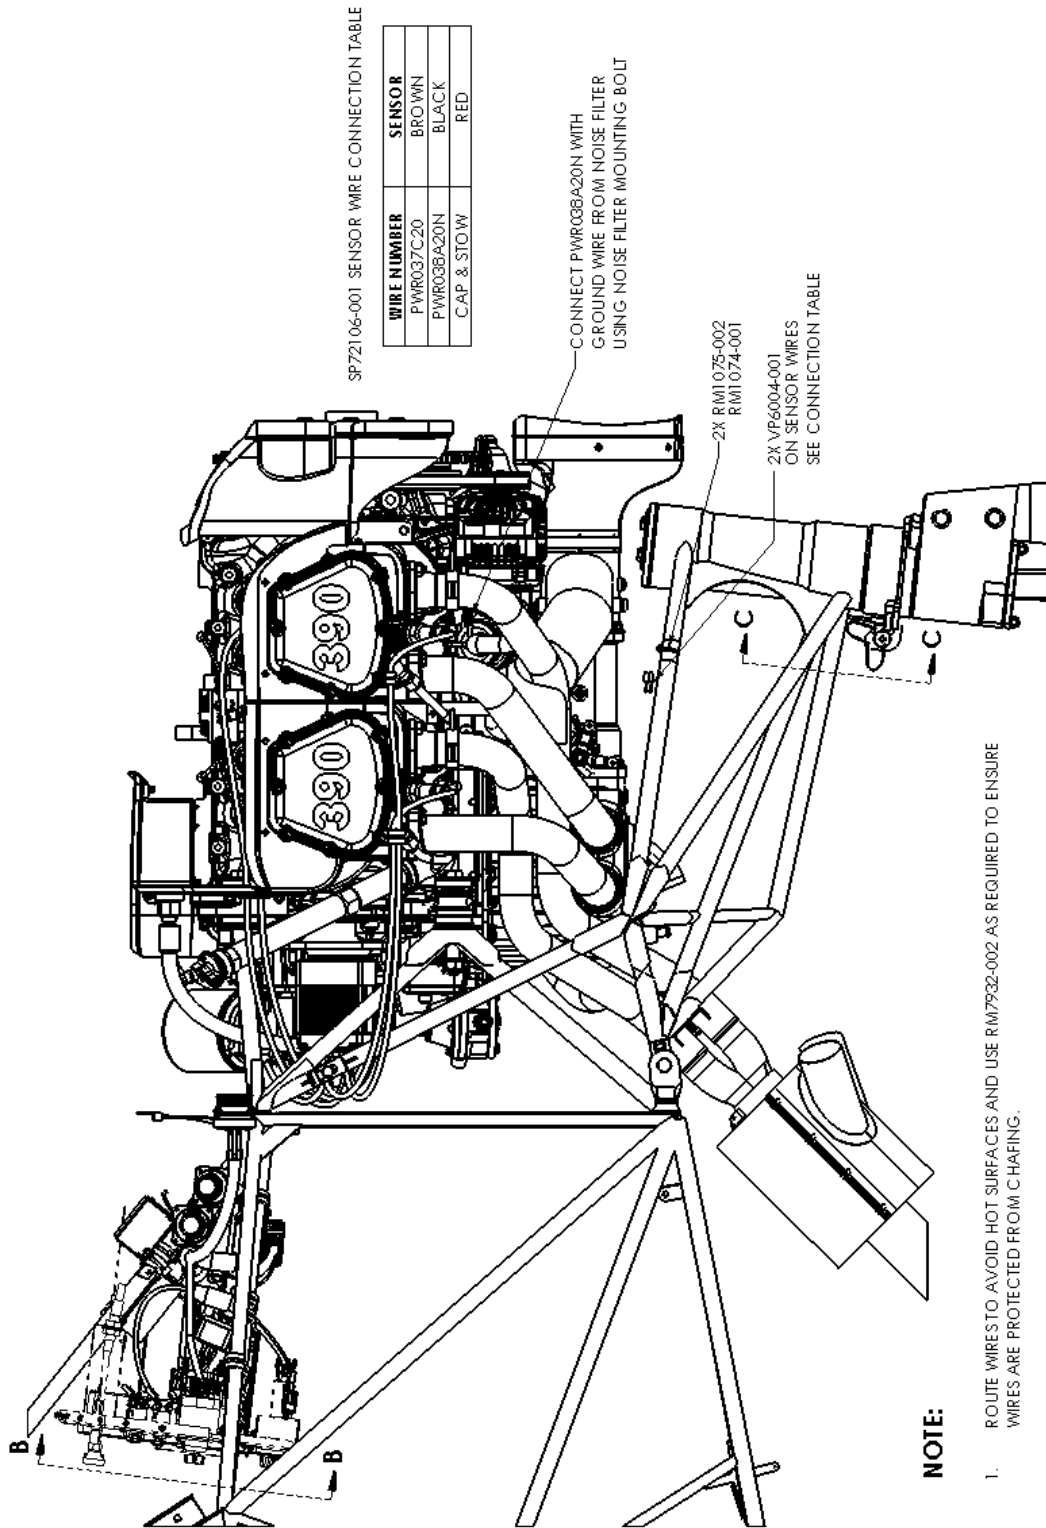
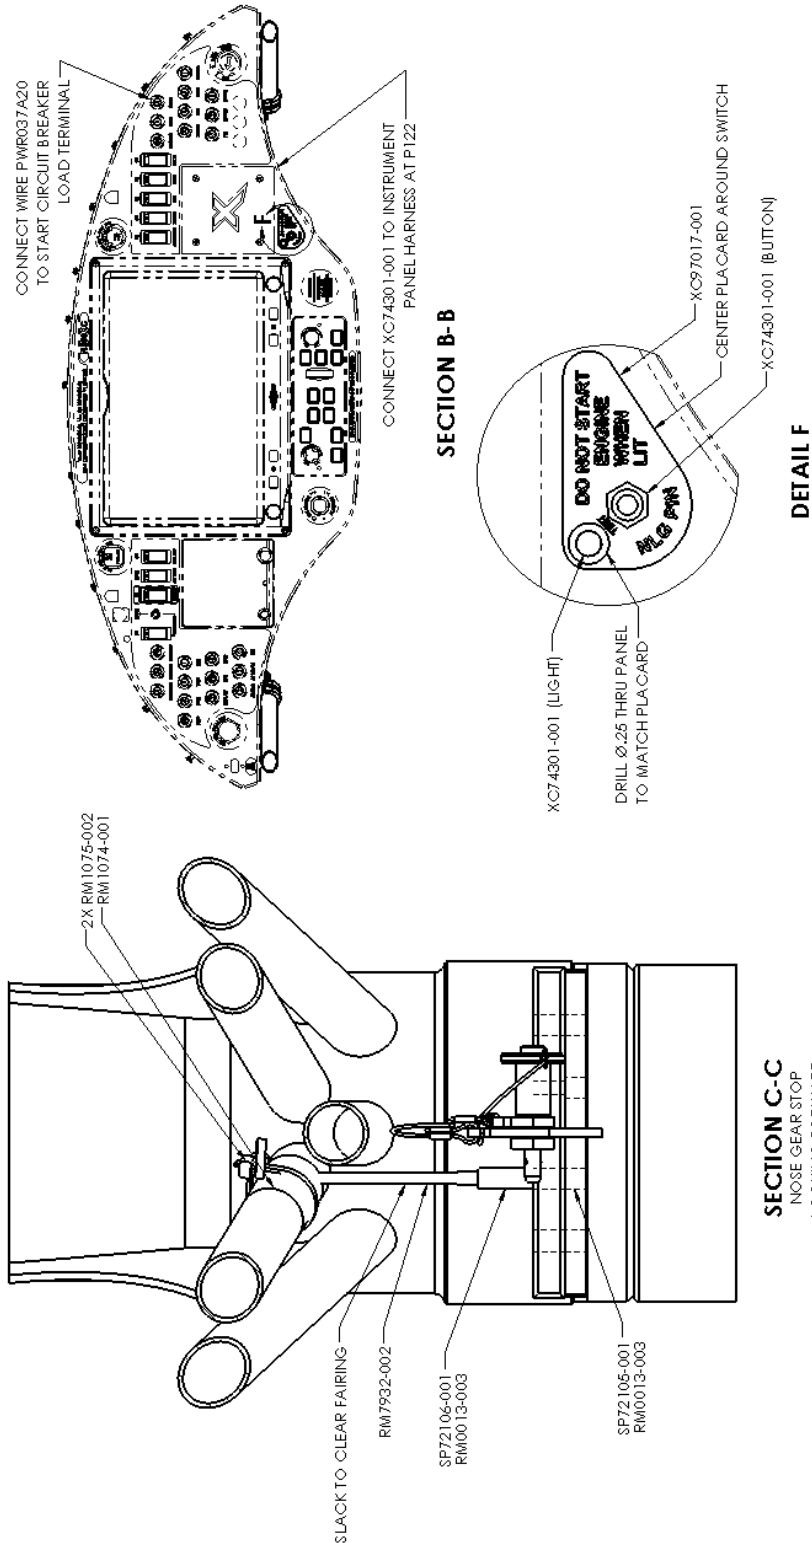
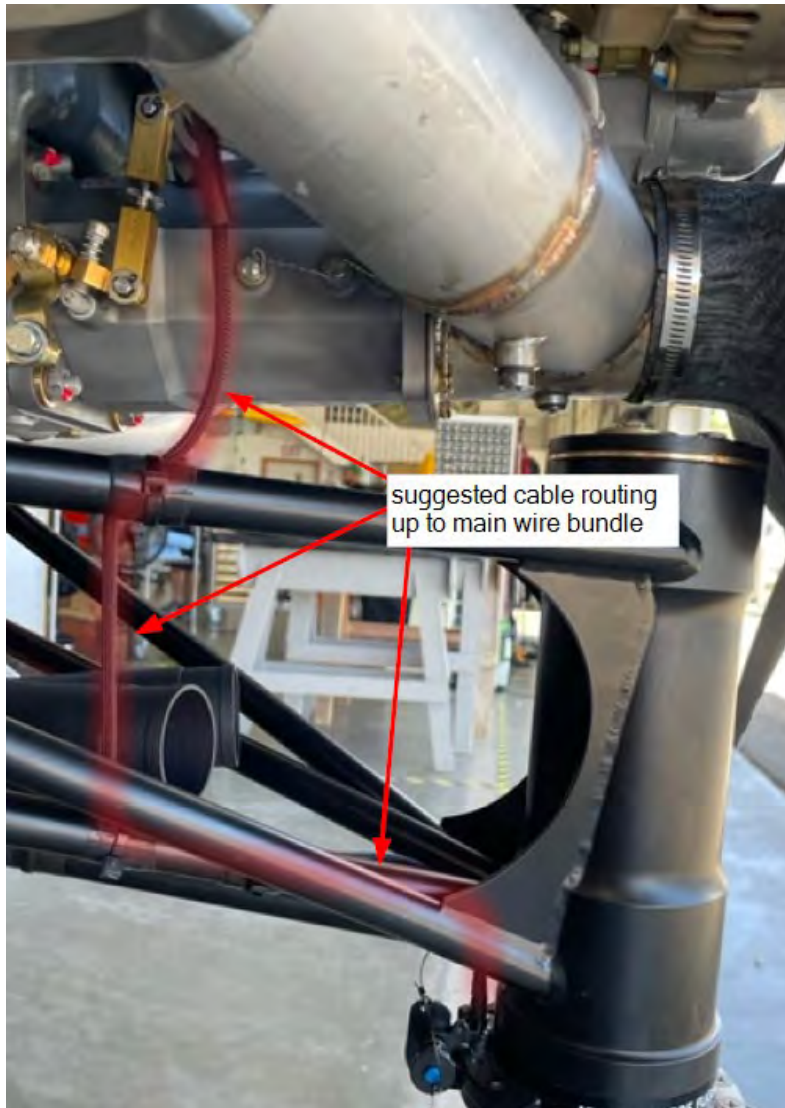

Figure 18 – Stop Sensor Installation
Figure 19 – Stop Sensor Installation
Figure 20 – Cable Routing
30. Install nose gear stop sensor and light in accordance with Figure 18, Figure 19, and Figure 20.